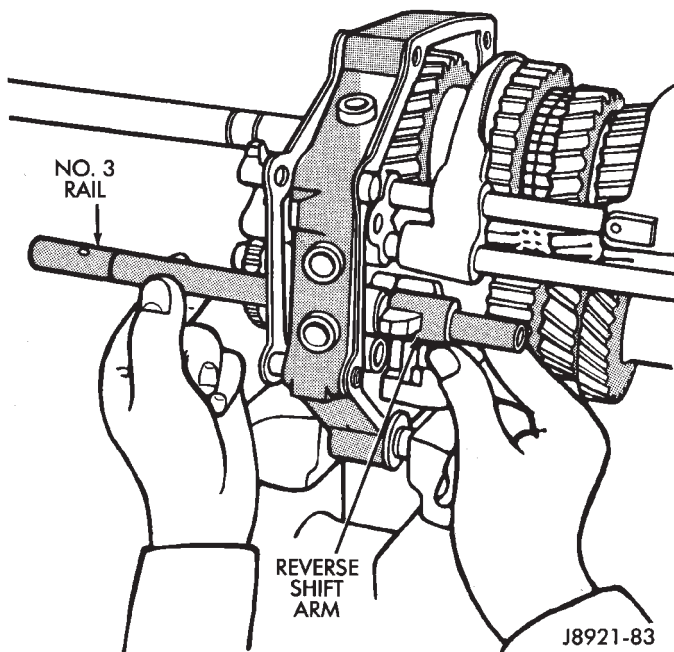

Fig. 76 Installing No. 3 Shift Rail
(11) Slide No. 3 rail into reverse shift head (Fig. 76).